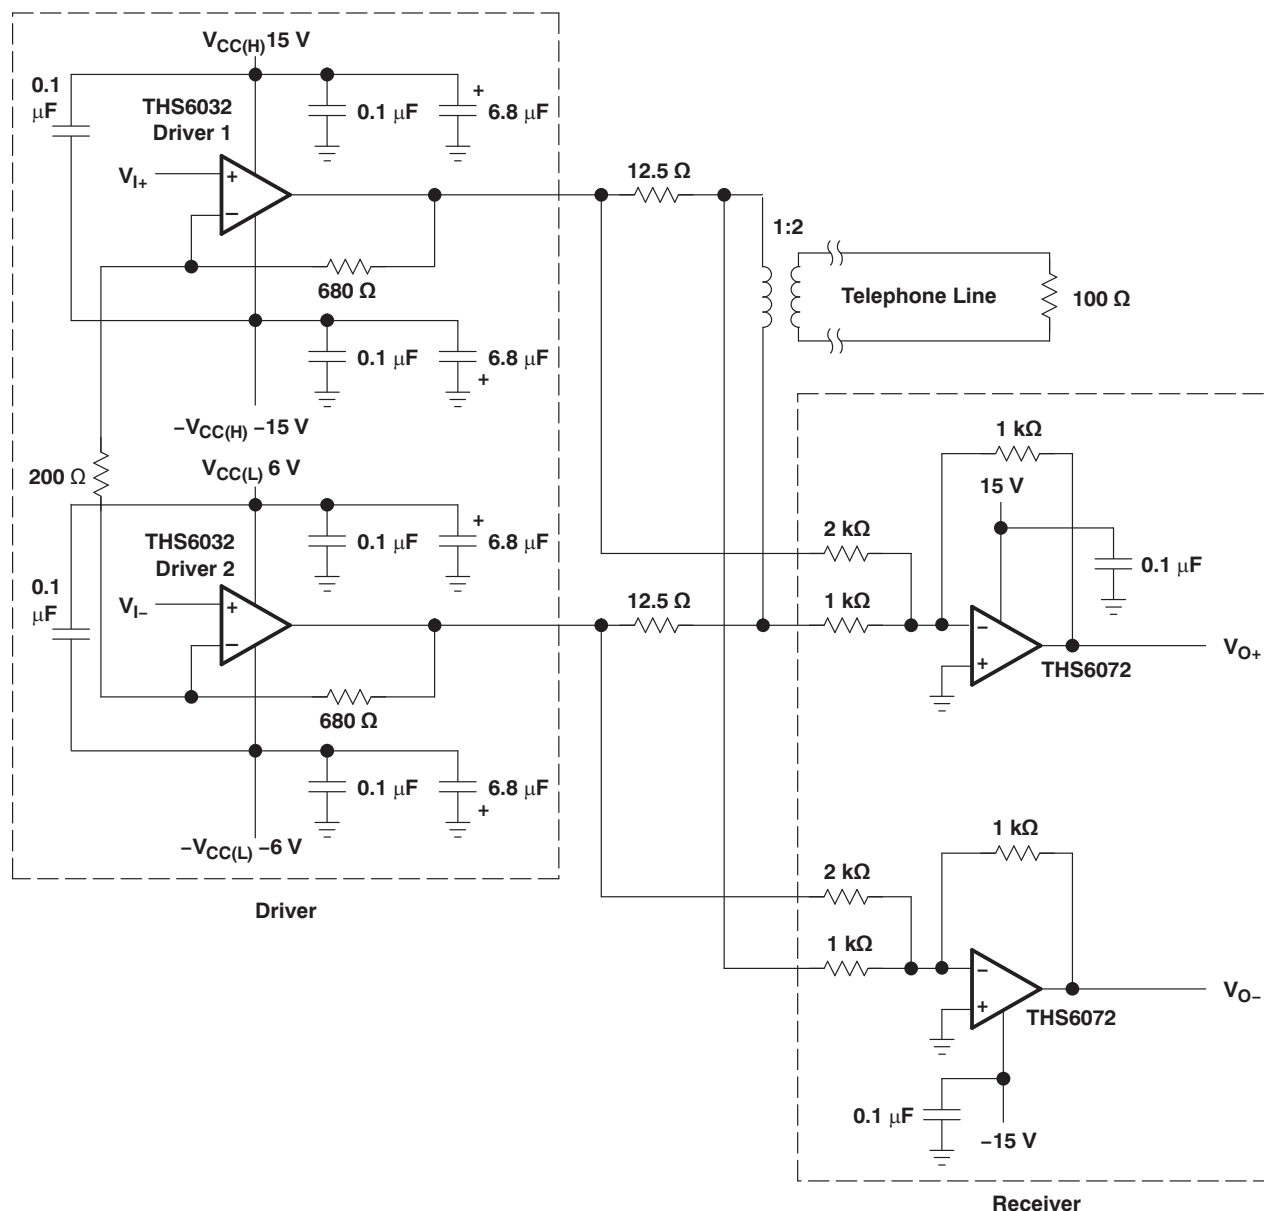

Figure 36. THS6032 ADSL Application
The THS6032 was primarily designed as a low-power line driver for ADSL (asymmetrical digital subscriber line). The driver output stage has been sized to provide full ADSL power levels of 20 dBm onto the telephone lines. Although actual driver output peak voltages and currents vary with each particular ADSL application, the THS6032 is specified for a minimum full output current of 400 mA at its full output voltage of approximately 11 V. This performance meets the demanding needs of ADSL at the central office end of the telephone line. A typical ADSL schematic is shown in Figure 36.
- Differential power supply decoupling – The THS6032 was designed to drive low-impedance differential signals. The 25-Ω load that each amplifier drives causes large amounts of current to flow from amplifier to amplifier. Power-supply decoupling for differential-currents must be provided to ensure low distortion in the THS6032. By simply connecting a 0.1-μF ceramic capacitor from the +VCC(H) pin to the –VCC(H) pin, along with another 0.1-μF ceramic capacitor from the +VCC(L) pin to the –VCC(L) pin, differential current loops will be minimized (see Figure 36). This will help keep the THS6032 operating at peak performance.
The THS6032 incorporates a shutdown circuit to conserve power. Traditionally, when an amplifier is placed into shutdown mode, the input and output circuitry are turned off. This conserves a large amount of power, but the output impedance will be a very high, typically greater than several k $\Omega$ . This situation does not maintain proper line termination, resulting in a severe reduction of the receive signal coming through the transmission line (see Figure 36).